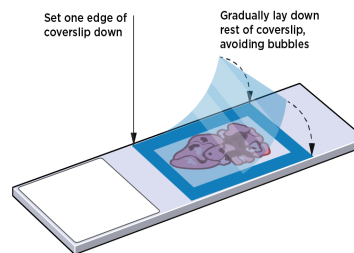

Figure 101: Apply Incubation Frame Cover
Start by adding the antibody solution to the edge of the tissue within the frame. Applying the incubation frame cover will help move the antibody solution across the tissue (Figure 101).
7. **Carefully apply incubation frame cover** (Figure 101). Start by setting one edge of the cover down on the incubation frame edge, then gradually lay down the rest of the cover. Press around the edges of the cover (along the border of the incubation frame) to ensure good adherence. **Do not press the center of the cover as it could damage the tissue.**